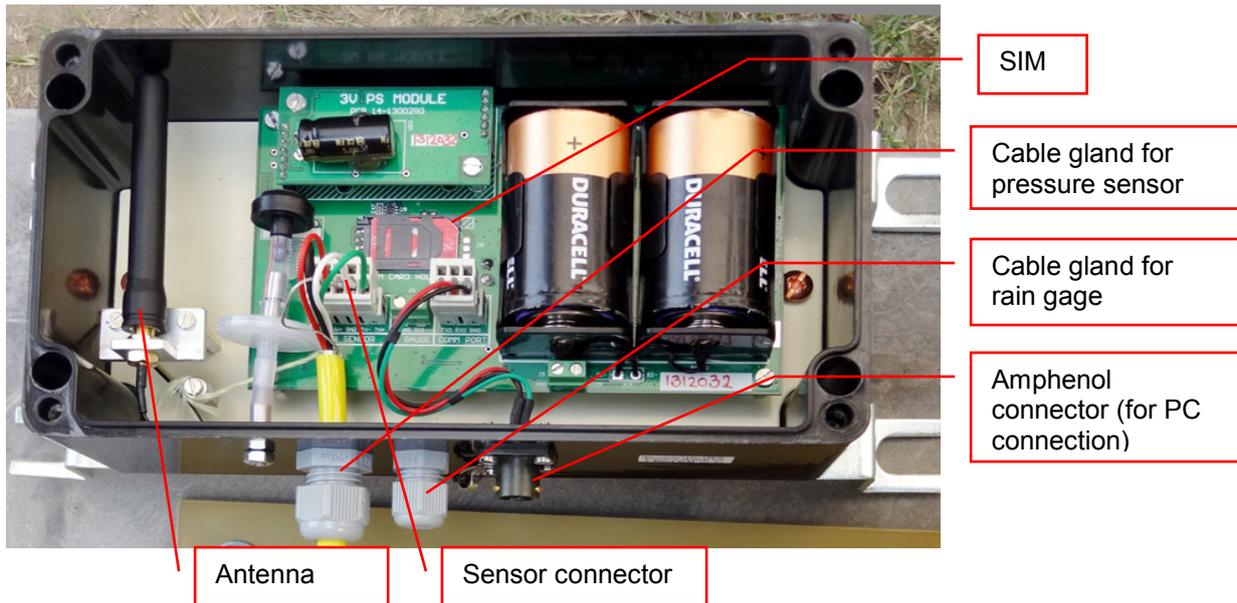

Figure 9-13: ESCL-10VT-BX Datalogger with telemetry option
- To install SIM, unlock the slot by pushing the upper edge of SIM slot as per first picture of figure 9-13.
- Place data SIM in slot as per second picture of figure 9-13.
third picture of figure 9-13.